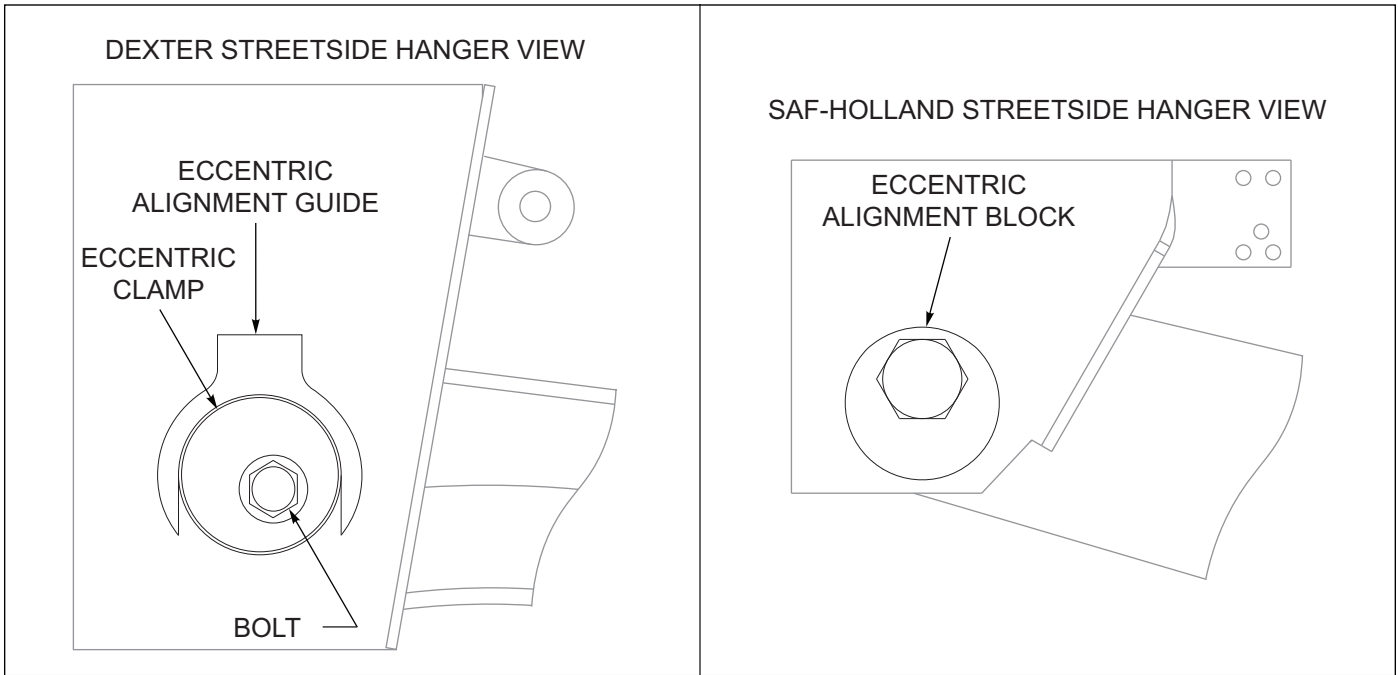

Figure 4-10: Streetside Suspension Hanger
- a. 1-1/8 in Pivot Bolts - Loosen pivot bolt lock nuts and rotate eccentric pivot bolts clockwise or counter-clockwise to adjust. Repeat Steps 5-6 until measurement is achieved, *See Figure 4-10*.
- b. 7/8 in Pivot Bolts - Break welds if present between hanger mounts/eccentric collars and pivot lock nuts/jam nuts. Loosen jam nuts if installed. Loosen lock nuts. Rotate eccentric pivot bolts clockwise or counter-clockwise to adjust. Repeat Steps 5 through 6 until measurement is achieved, *See Figure 4-10*.
- a. 1-1/8 in Pivot Bolts - Loosen pivot bolt lock nuts and rotate eccentric pivot bolts clockwise or counterclockwise to adjust. Repeat Steps 5 through 6 until measurement is achieved, *See Figure 4-10*.
- b. 7/8 in Pivot Bolts - Break welds if present between hanger mounts/eccentric collars and pivot lock nuts/jam nuts. Loosen jam nuts if installed. Loosen lock nuts. Rotate eccentric pivot bolts clockwise or counterclockwise to adjust. Repeat Steps 5 through 6 until measurement is achieved, *See Figure 4-10*.
- a. 1-1/8 in Pivot Bolts - Loosen pivot bolt lock nuts and rotate eccentric pivot bolts clockwise or counter-clockwise to adjust. Repeat Steps 5-6 until measurement is achieved, **See Figure 4-10.**
- b. 7/8 in Pivot Bolts - Break welds if present between hanger mounts/eccentric collars and pivot lock nuts/jam nuts. Loosen jam nuts if installed. Loosen lock nuts. Rotate eccentric pivot bolts clockwise or counter-clockwise to adjust. Repeat Steps 5-6 until measurement is achieved, **See Figure 4-10.**